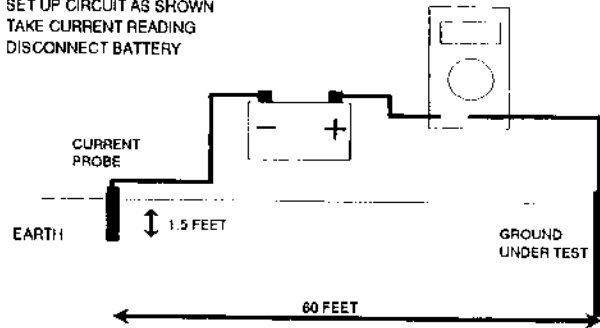

Figure 27 - Current measurement
Place all of the probes in a straight line with respect to the earth grounding electrode being tested. Place the current probe about 60 feet away and the potential probe at 0.62 times this distance from the ground rod under test (about 36 feet). Drive in the current and potential probes about 1½ feet. Connect the wire as shown in figure 27.
1) Place current probe, the multimeter and the battery in series with the ground under test (see figure 27). It is important to place the probes in a straight line with respect to the ground rod under test. Record the current reading. Disconnect the battery.